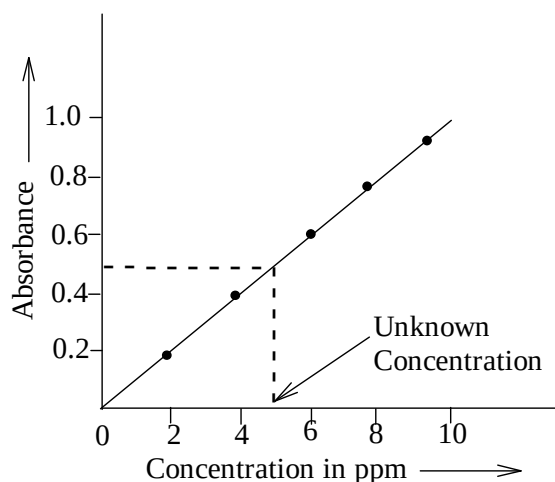

Fig. 6 Absorbance versus Concentration
- With the help of calibration curve, the calcium and magnesium content of test solution is measured (Fig. 6).